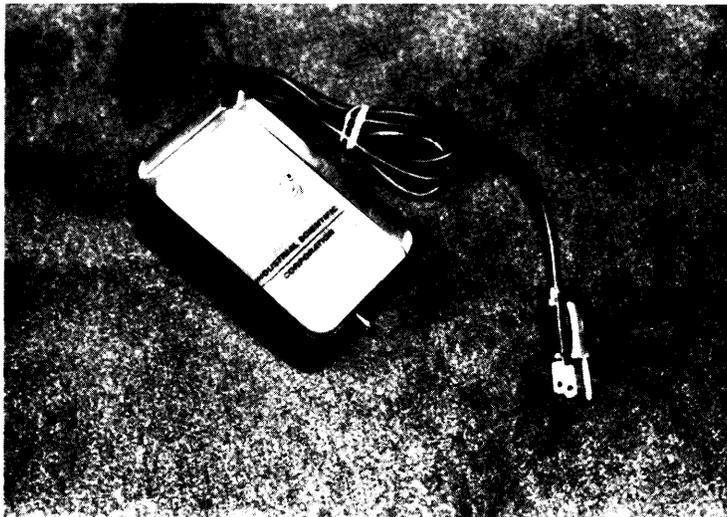

Fig. 3 - Single Unit Instrument Charger
- 6.01 CHARGING BATTERIES: A completely discharged battery's full potential will be restored by 14 hours of charging. There is no danger of overcharging the batteries when using the constant current battery chargers supplied with the instrument. (See Figure 3) Instrument in off position during charging operation.